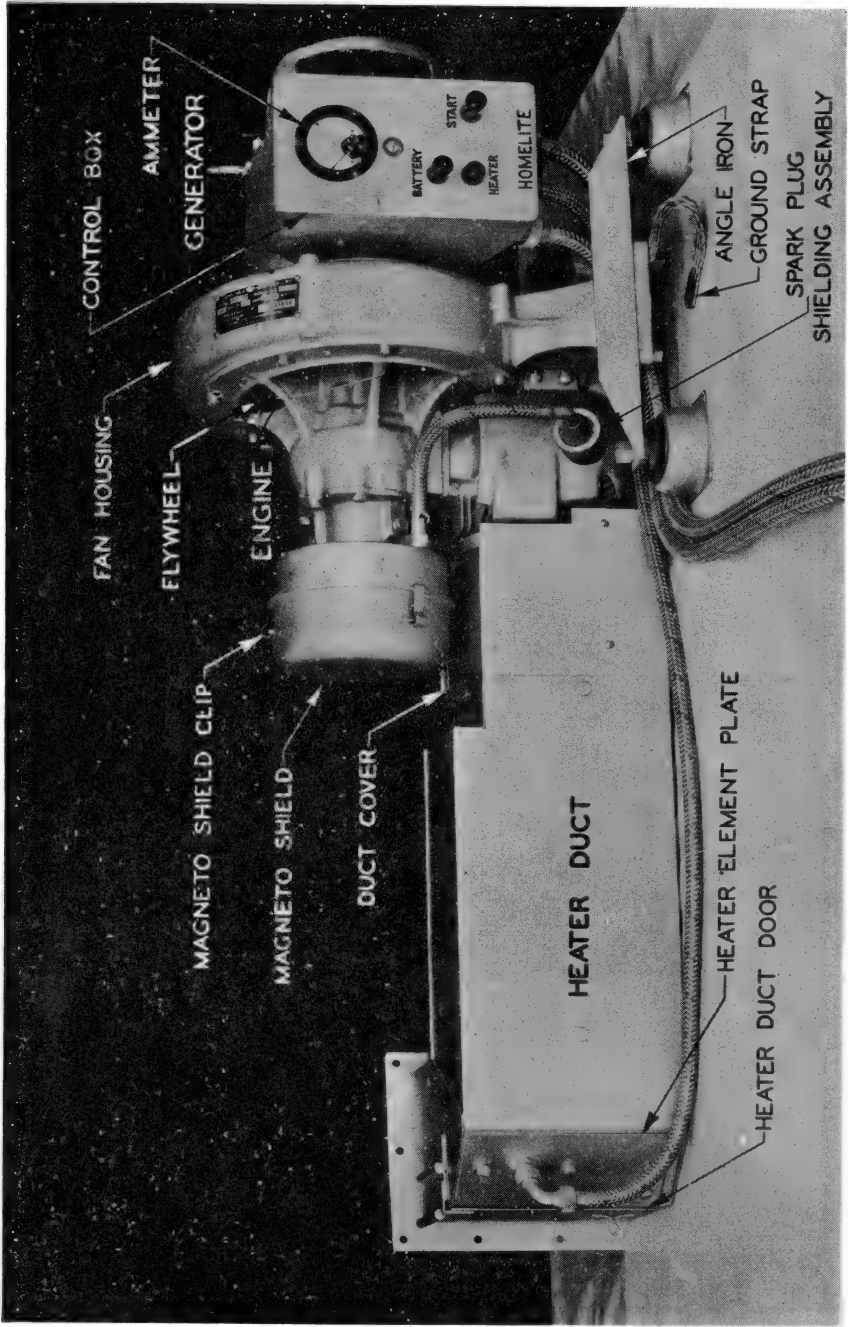

Figure 1—Auxiliary generator model HRH-28—right side
b. Place the unit in position and install by reversing removal instructions, par. 12 *b.* (1) - (6). To line up the bolt holes in the left angle, (carburetor side) and fan housing, assistance will be required. The assistant should use a pry bar beneath the unit to facilitate this alignment.
- (1) The fan housing base goes beneath the angle irons (fig. 1).
- (2) The shielded conduits from the control box go beneath
the fan housing base and in back of the front foot mounting (fig. 1)
(3) Do not omit connecting the ground strap beneath the rear bolt on the right angle (fig. 1). This bolt is $\frac{1}{4}$ -inch longer than the others.